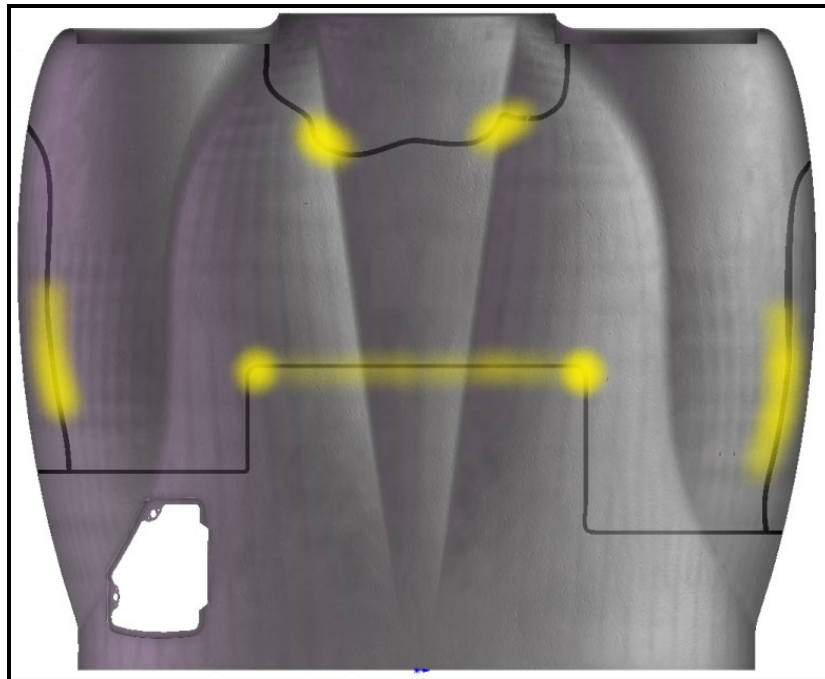

Figure 3 - Upper Cowl Possible Chafing Locations
5. Locate and mark all zones where direct composite to composite or fastener to composite contact is in evidence. Figure 3 depicts possible contact zones on underside of the upper cowl.